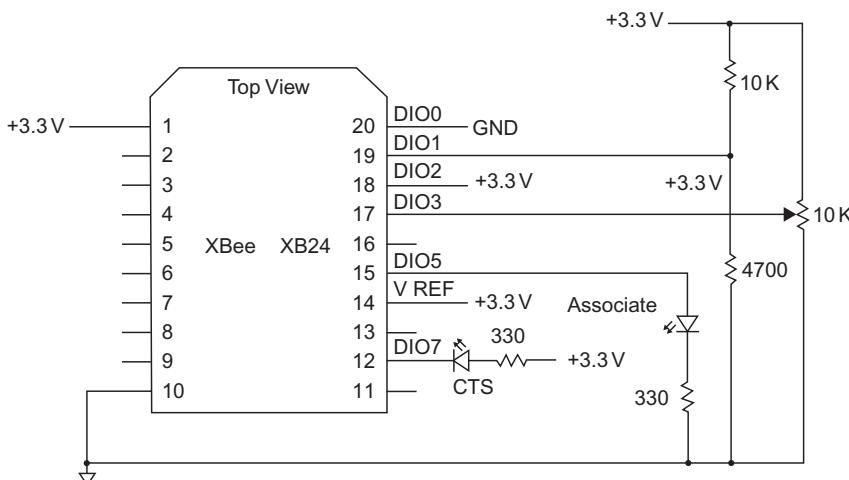

FIGURE 22.1 Add this circuitry to an End-device module so it has two digital and two analog inputs as well as an Associate and a Clear-to-Send (CTS) LED.
Step 3. Place your End-device modules in an XBee adapter in your solderless breadboard and add the components shown in Figure 22.1 to this module. The two digital inputs (DIO0 and DIO2) and two analog inputs (DIO1 and DIO3) provide information this End-device module can transmit to the Coordinator you programmed earlier. This circuit also includes an LED for the module's clear-to-send (CTS) output at pin 12. If the adapter has any other electrical connections, please remove them now.
If you have a second XBee module to use as an End device, follow the programming sequence in Step 1. Then place this module in an adapter in a solderless breadboard and connect pin 1 to +3.3 volts and pin 10 to ground. If you wish you can add the other components shown in Figure 22.1. Turn on power to your second End-device module. You should see data arrive from both modules. Differences in the SL – Serial Number Low bytes lets you tell the difference between data from each End device.
Step 8. Place your End-device module in the XBee adapter in your solderless breadboard that already has the connections shown earlier in Figure 22.1.